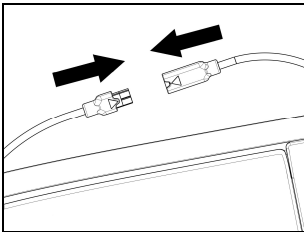

Fig. 27
- Position the battery in the right polystyrene cheek pad housing and secure it using the Velcro ribbon (Fig. 27).